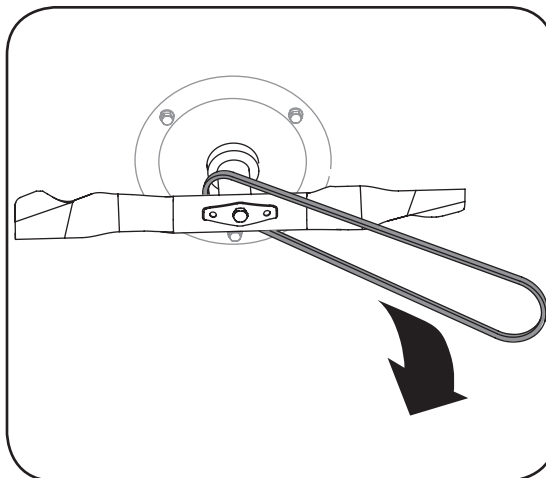

Figure 5-5
3. Roll the belt off the transmission pulley. Tip mower on its side with the air filter up to access belt from underside of mower. Slide belt off of engine pulley and thread through the opening in the belt keeper bracket. Then remove the belt from around the blade by removing over one end at a time. See Figure 5-5.